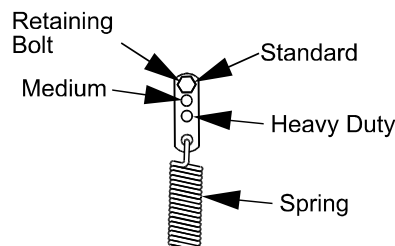

FIGURE 19
- b) For a heavier drive setting, relocate the spring anchor link to either the “medium” or “heavy duty” positions as shown in Figure 19. The spring anchor links are attached to the upper rear corner of the hydro drive shields on the left and right hand sides of the machine.